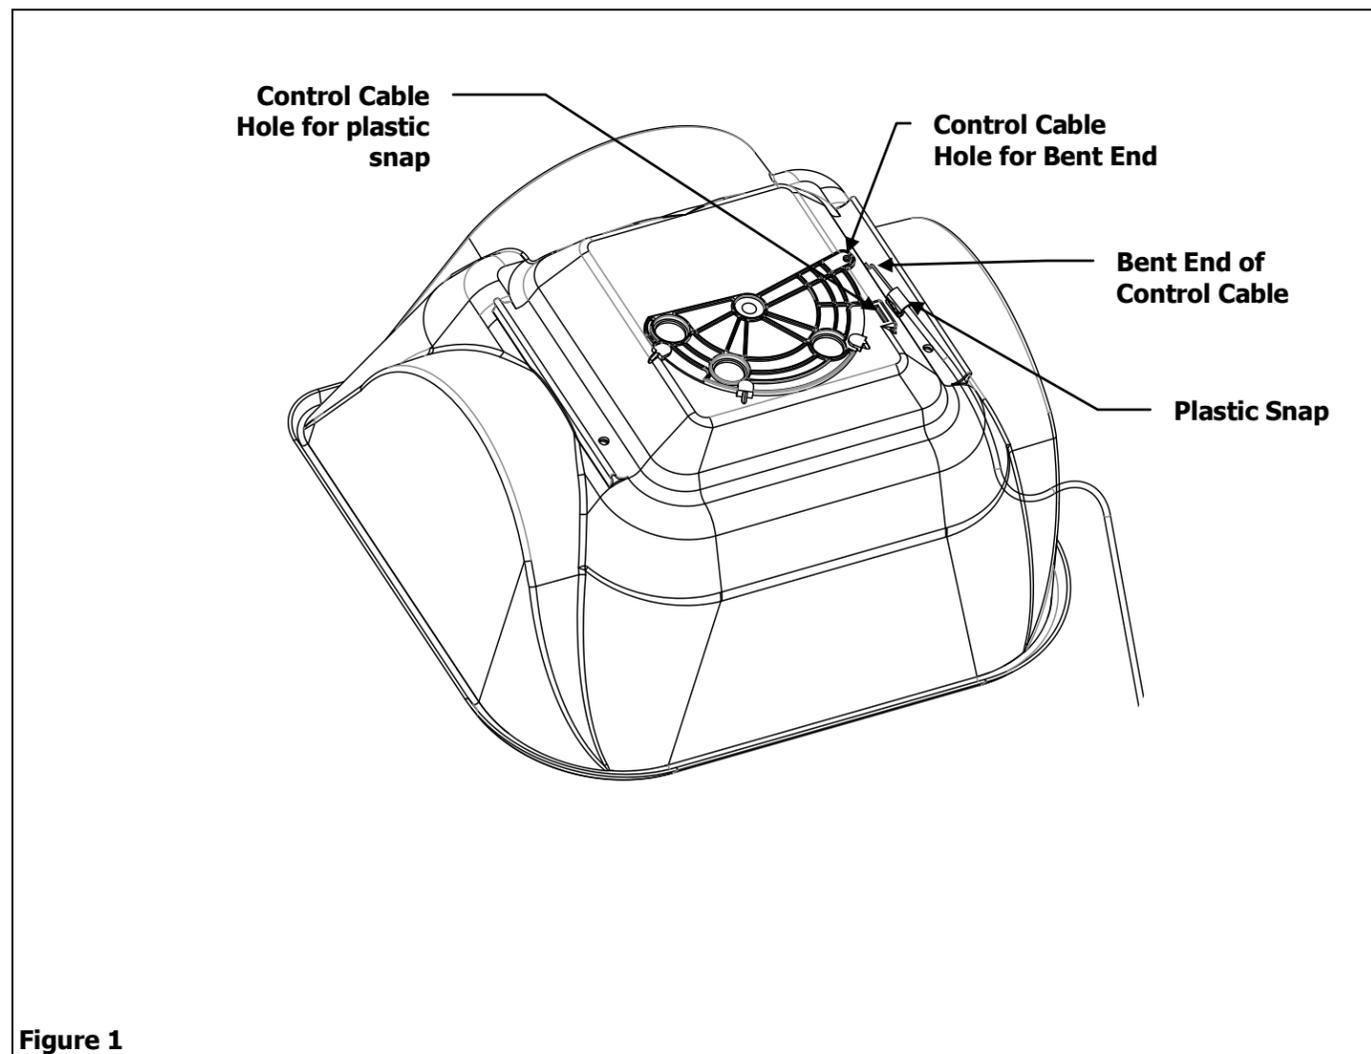

Figure 1
1. Insert the Bent End of the Control Cable through the cable attachment on the Slide Plate. Push the plastic snap on the Control Cable into the Control Cable Hole on the bottom of the Hopper. See Figure 1.